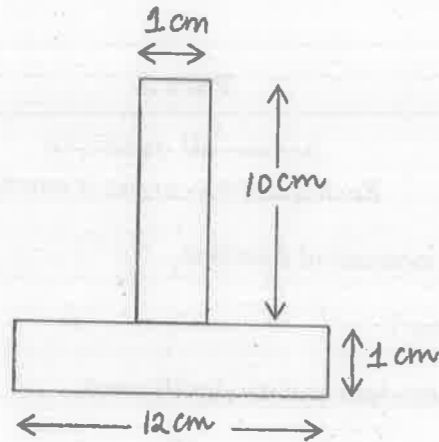

Figure 1
- (b) Determine the shape factor for the beam section shown in Figure 1. Find also the fully plastic moment of the beam section. Take $\sigma_y = 250 \text{ N/mm}^2$.